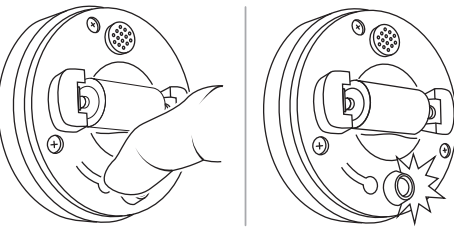

FIGURE 8
4. Press and release the programming button once (see figure 8). This starts the manual add process. The blue LED flashes quickly as it searches for a network. After 25 seconds, the LED stops flashing and illuminates red for 1 second if the sensor is not added to the network.